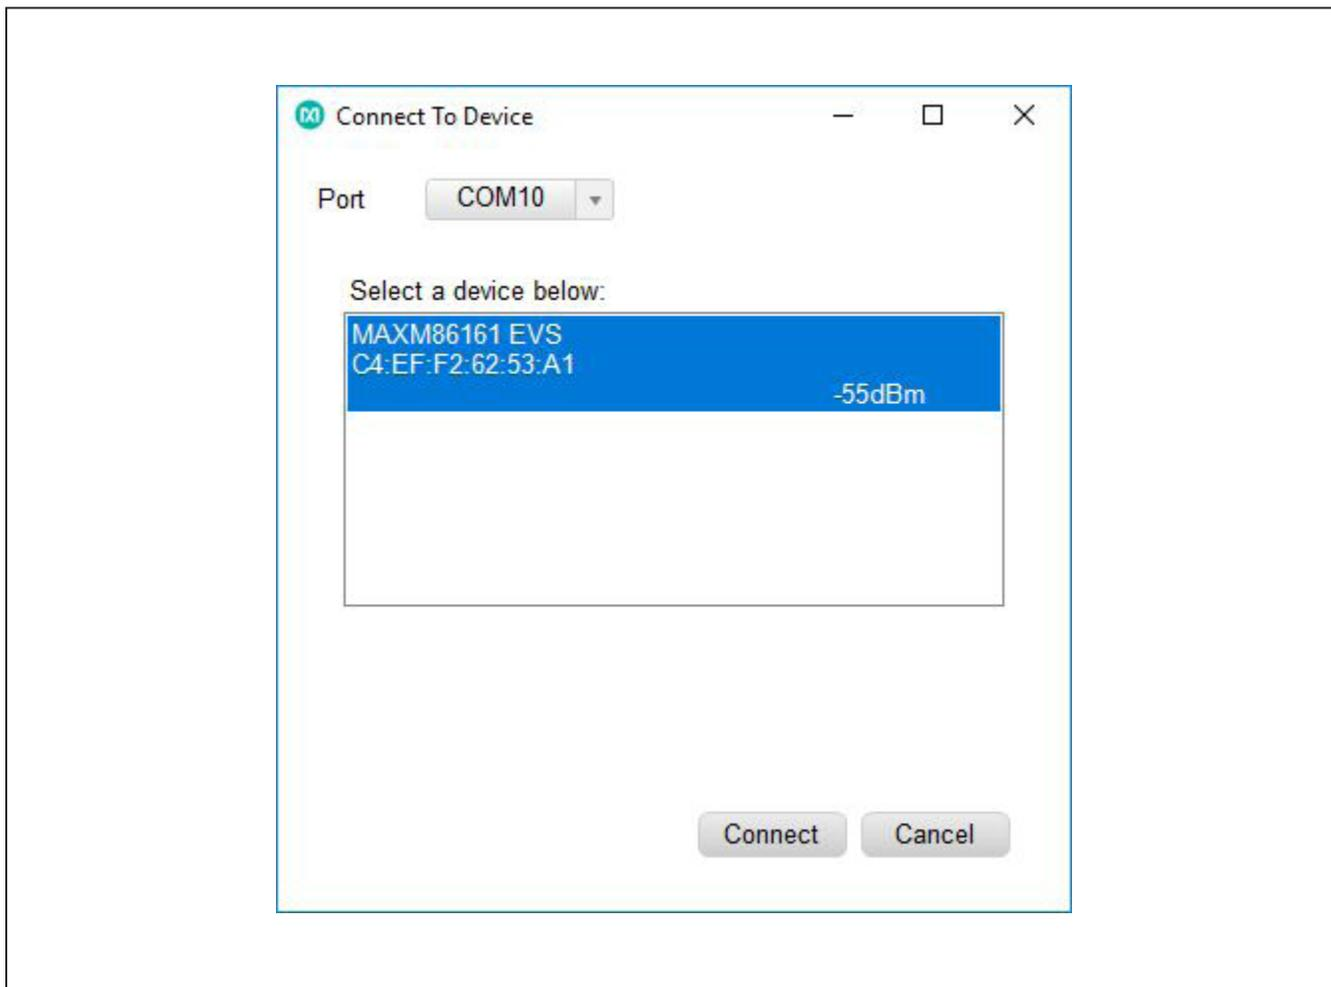

Figure 11. Connect to BLE Device
- 6) Press "Finish." Next, the "Connect To Device" window appears. Choose your device and press "Connect" as shown in Figure 11.